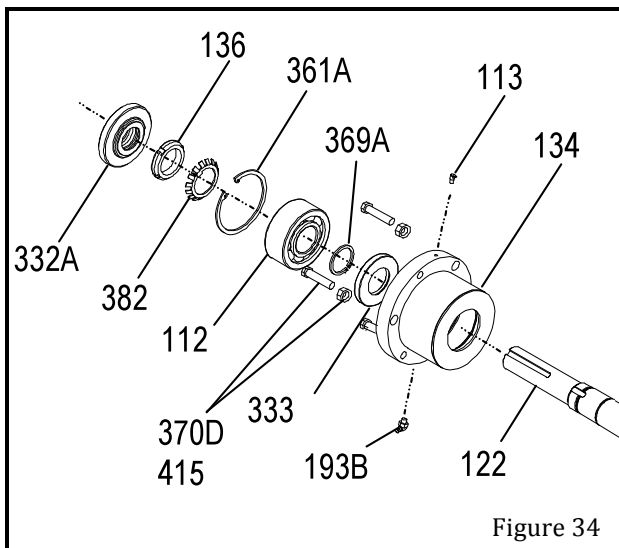

Figure 34
1. Install retaining ring (369A) on shaft (122) (Figure 34).